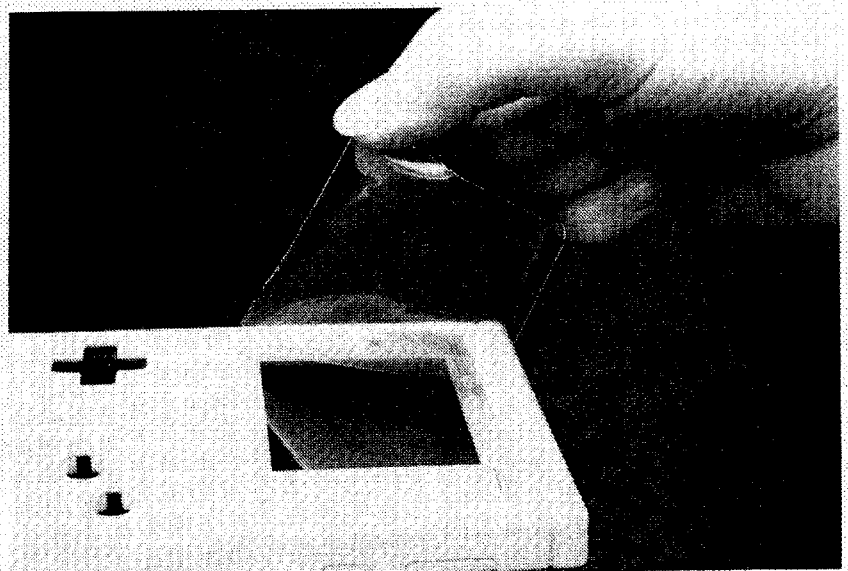

Fig. 15
15. The new screen cover has a protective plastic cover to protect it from scratches. This cover should be removed before the Game Boy unit is returned to the consumer (Fig. 15).